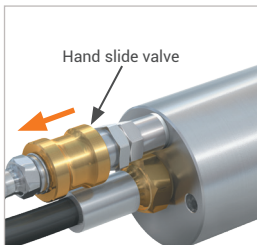

Figure 8
- ▶ Push the sliding sleeve of the hand slide valve (Pos. 6) backwards (Figure 8). The pilot pressure applied is vented. The front seals (Pos. 7) / the main seals (Pos. 8) are relaxed, the connection to the test piece is released and the connector can be removed straight backwards.